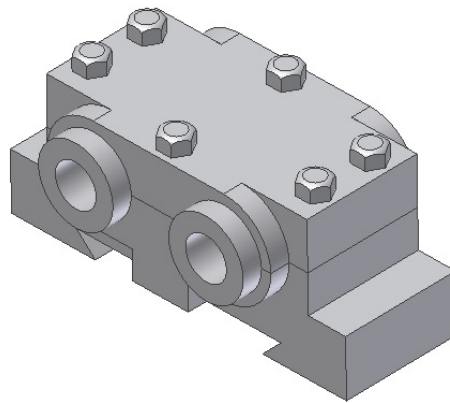

Figure 10-38 Double Bearing assembly
12. Select the other hole in the middle of the Cap and choose **OK**. The final Double Bearing assembly is shown in Figure 10-38.